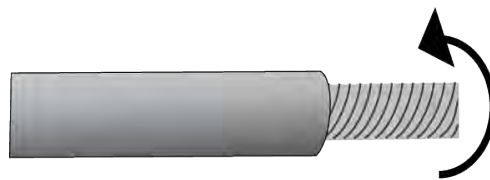

Figure 53. Wrapping the Wire Strands
2. Tightly wrap the wire strands with your finger tips. Refer to Figure 53. This can prevent loose strands from touching other wires and causing an electrical short.
2. Tightly wrap the wire strands with your finger tips. Refer to Figure 53 on page 103. This step can prevent loose strands from touching other wires, causing an electrical short.